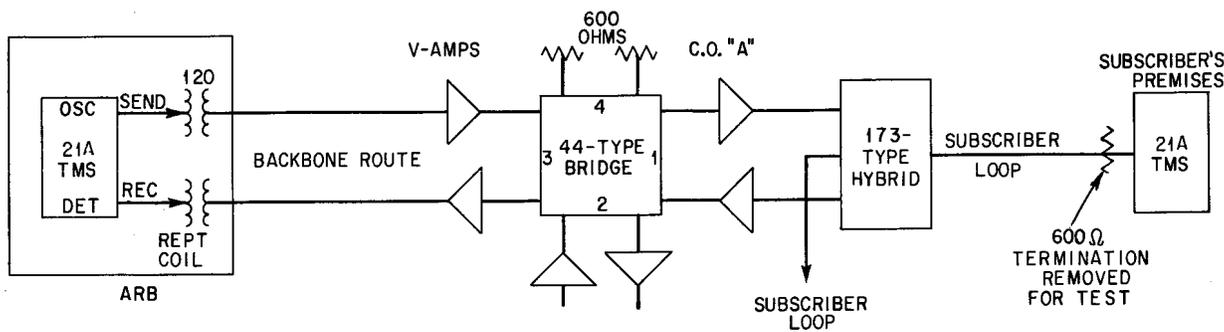

Fig. 3 — Frequency Response Measurement from Subscriber Loops
**5.03** The frequency response from 300 to 1300 cycles should also be measured from the subscriber's premises on each subscriber loop to ARB headquarters. The test setup for this is shown in Fig. 3. Chart II outlines the procedure for making the measurements.
5	Connect test equipment as shown in Fig. 3.